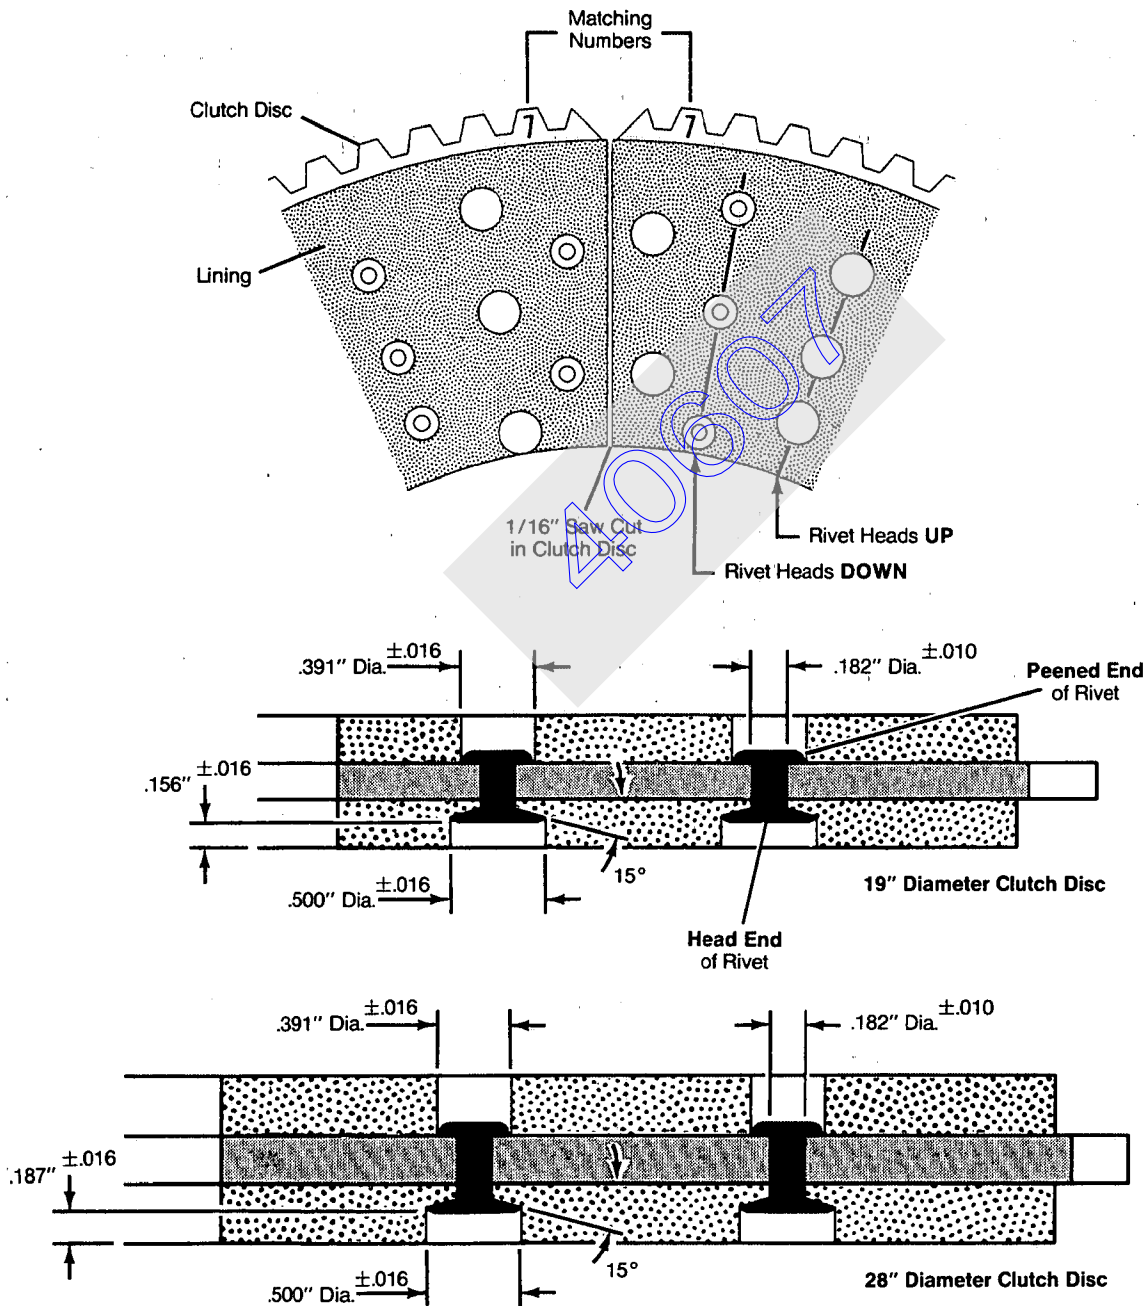

Figure 2 Rivet Hole Dimensions
2. The lining must be drilled in the field to the dimensions given in Figure 2 before the lining can be riveted to the clutch disc.